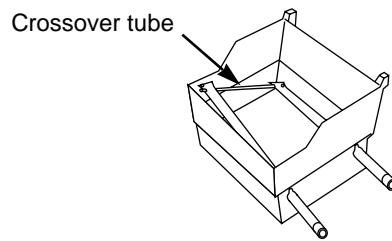

Figure 12
g) Lift and twist the burner assembly slightly, to separate the crossover tube from the burners. Figure 12. Remove the burners from the cooking box.